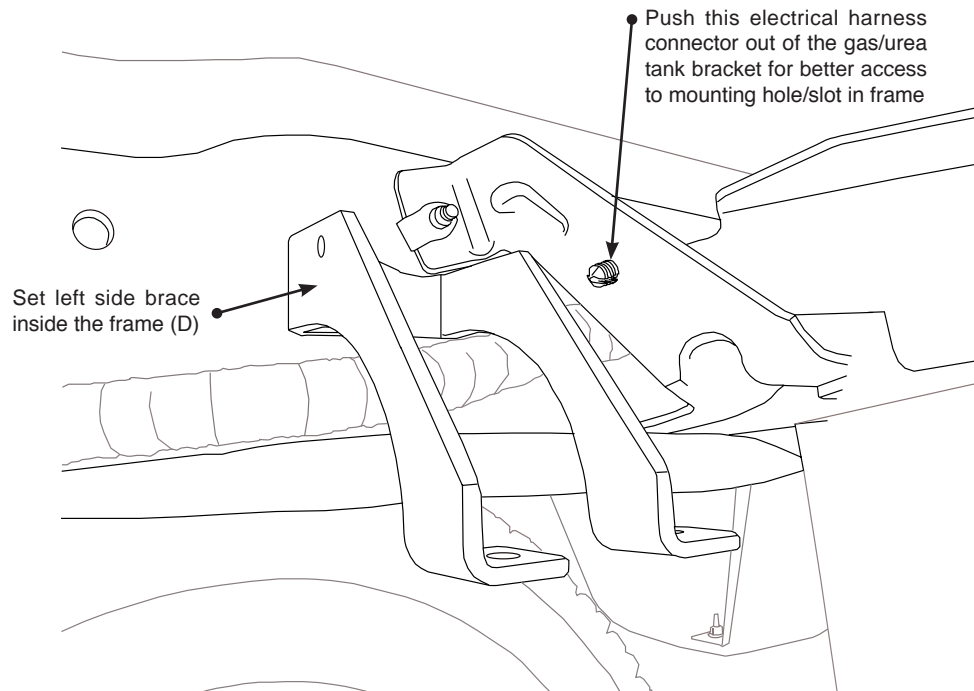

fig. 3
3. If necessary, disconnect the wiring harness from the driver side frame rail to gain clearance for the upper brace. Also, push the harness connector out that holds the electrical lines going to the gas/urea tank in or out of the tank bracket. This will improve the socket/bolt access that will be required for installing and tightening the frame brace (fig. 3).
8. Once the left (driver side) 1/2 or 3/4" hardware has been tightened, push the wiring harness connector which was removed in the "getting started section" back into the gas/urea tank mounting hole. If this broke during disassembly, wire tie it to the bracket (fig. 3).